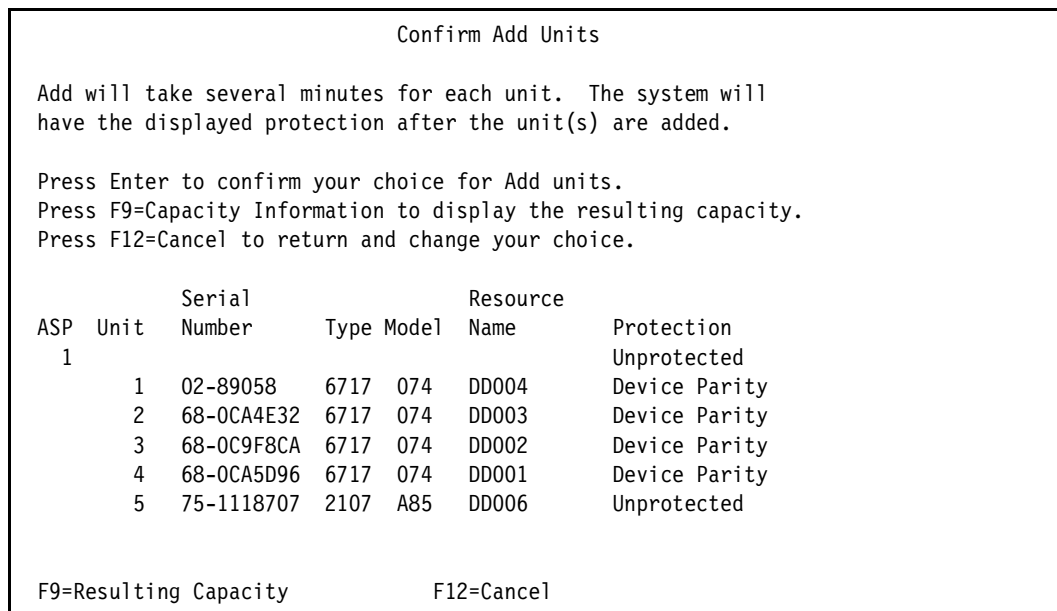

Figure B-5 Confirm Add Units
- The Confirm Add Units panel will appear for review as shown in Figure B-5. If everything is correct, press **Enter** to continue.